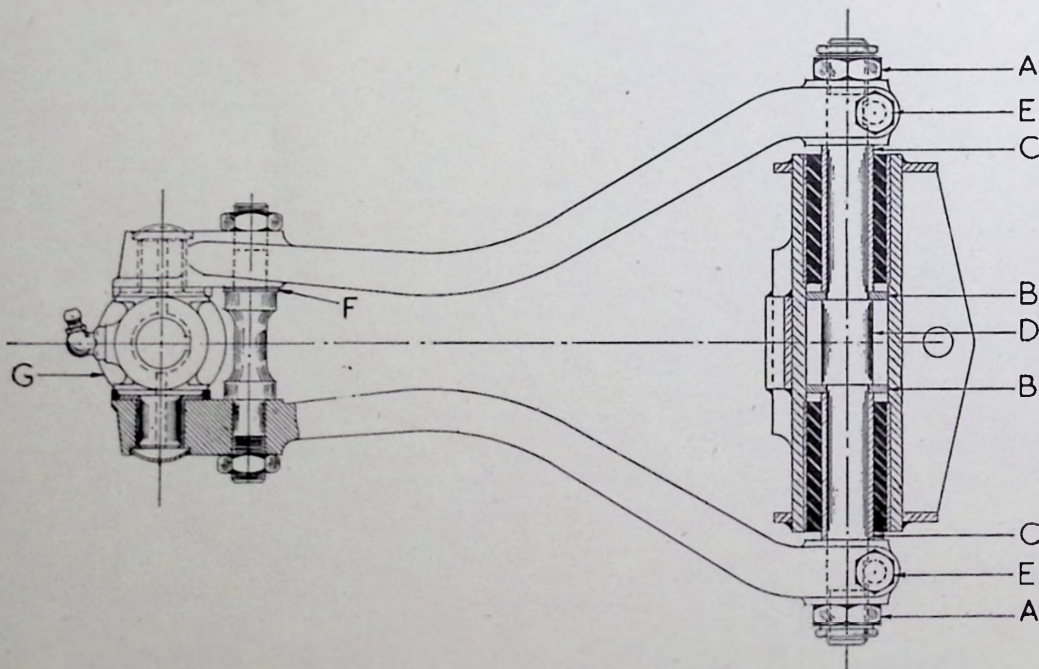

Fig. 1.
- (5) Remove the three nuts securing the horizontal flange of the bracket to the chassis, the bolt and nut with spring washer securing the vertical flange to the chassis and detach the assembly. When doing so, note the number and position of any shims under the horizontal flange of the bracket and the plain circular washers between the vertical flange and chassis. The purpose of these shims is to position the bracket on the chassis in a manner which will allow the trunnion marked G in sketch I, (Page FY4), to slide freely over the swivel pin. Pay particular attention to preserve these shims and washers and to replace them as removed.
- (6) Secure the assembly in a vice. Remove the nuts on the main spindle and the two clamp bolts. Note the adjusting shims "F", Fig. 1, on the small spindle, remove the nut on the opposite end of the spindle and draw off the arms. Detach the trunnion and preserve the thrust washers for further use.
- (7) Press out the main spindle which will come away with one rubber bearing assembly and the two abutment washers. The second bush can now be pressed out in the reverse direction.
- (1) Should it be necessary to replace the trunnion bushes it is preferable to broach them in position rather than ream. A suitable broach can be purchased from the Service Department—price on application. Check that the oil holes register before broaching.
- (2) When assembling the rubber bearing assemblies to the chassis bracket use a mandrel, which is slightly smaller in diameter than the bore of the bracket, to press in the bearings until the outer steel shells butt up against the shoulders machined in the bores. Use also new abutment washers, B. (See Fig. 1. Page FZ4).
- (3) When assembling the arms and trunnion fit the thrust washers so that the radii on their bores are towards the trunnion thrust faces and that the sealing washers,
preferably new ones, are fitted as shown in Fig. 1. If new thrust washers are fitted add or subtract shims at "F" until the trunnion moves freely without play when the nuts are securely tightened.